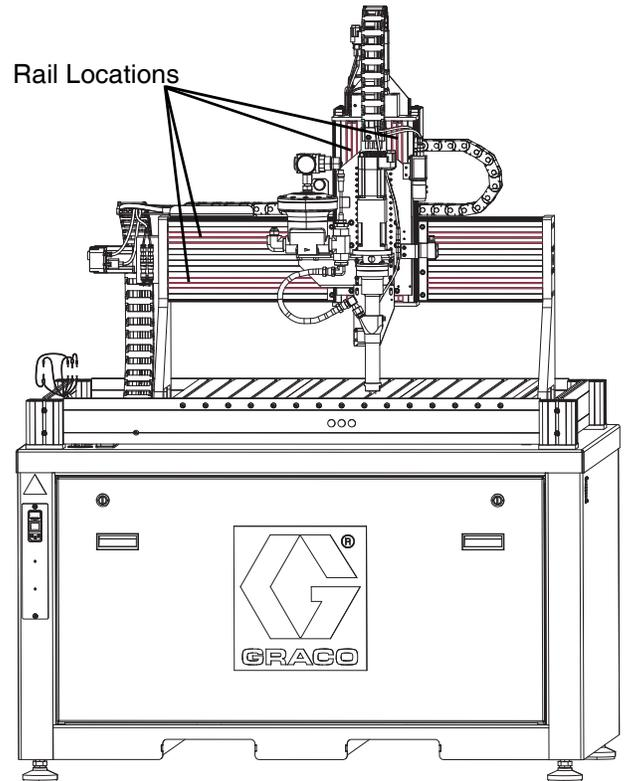

FIG. 14: Rubber Guard and Rail Locations
2. Spread the rubber guards apart at each of the four locations and brush oil onto the rails. See **Figure 14**.